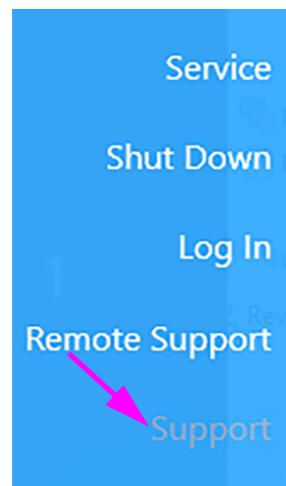

Figure 8-14. Menu Items Drop-down
2. On the Home screen, select the **Gear** icon in the upper right corner of the touchscreen display to show the Menu Items drop-down. See Figure 8-14.